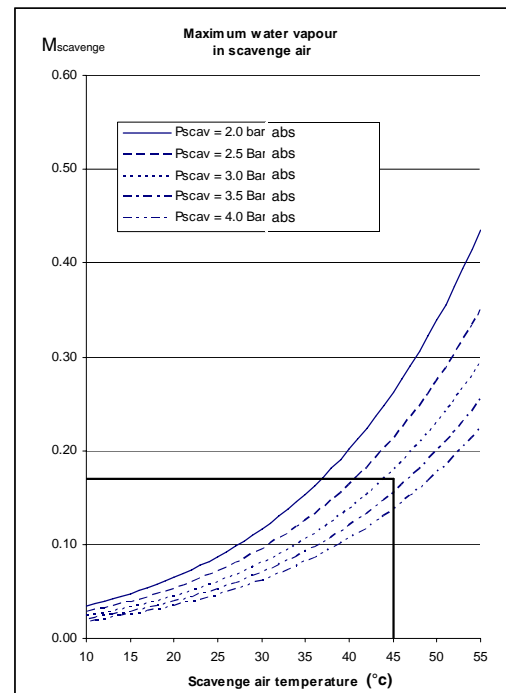

Figure 2
2. The maximum amount of water vapour in the scavenge air (M_{scavenge}) is found in figure 2 based on measurements of scavenge air pressure and temperature.
- 2) $M_{\text{scavenge}} = 0.17 \text{ kg/kWh}$ found from figure 2 (as outlined)